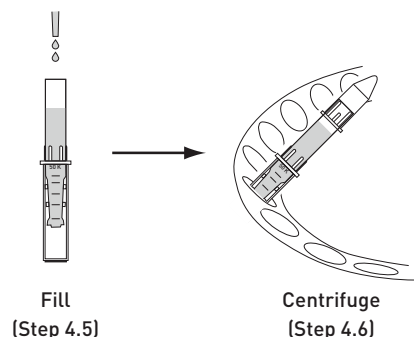

Figure 5 Purification and concentration of azide-modified antibody
- 4.5 Add 1.6 mL of 1X Tris pH 7.0 (or TBS) and 250  $\mu$ L of the azide-modified antibody from Step 3.3 to the large antibody concentrator (Component I) as shown in Figure 5.